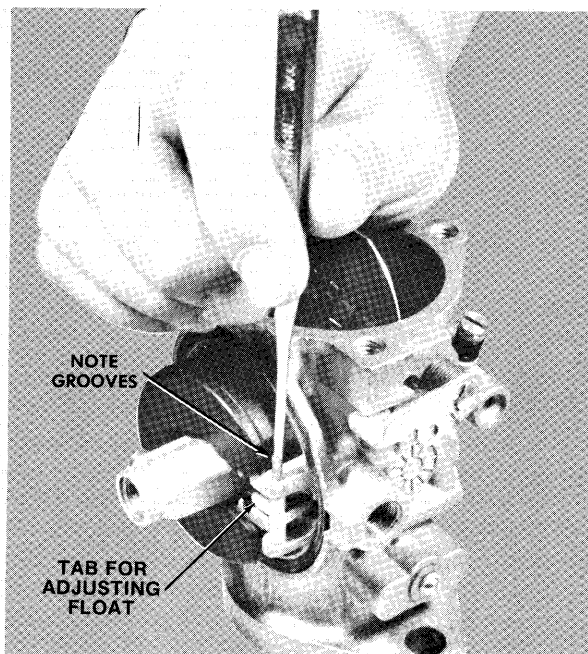

Figure 4—Installing Groove Pin
- B. Examine groove pin and note that there are grooves only at one (1) end of pin. Install groove pin as shown in figure 4.
If adjustment is necessary, bend tab on float as shown in figure 4.